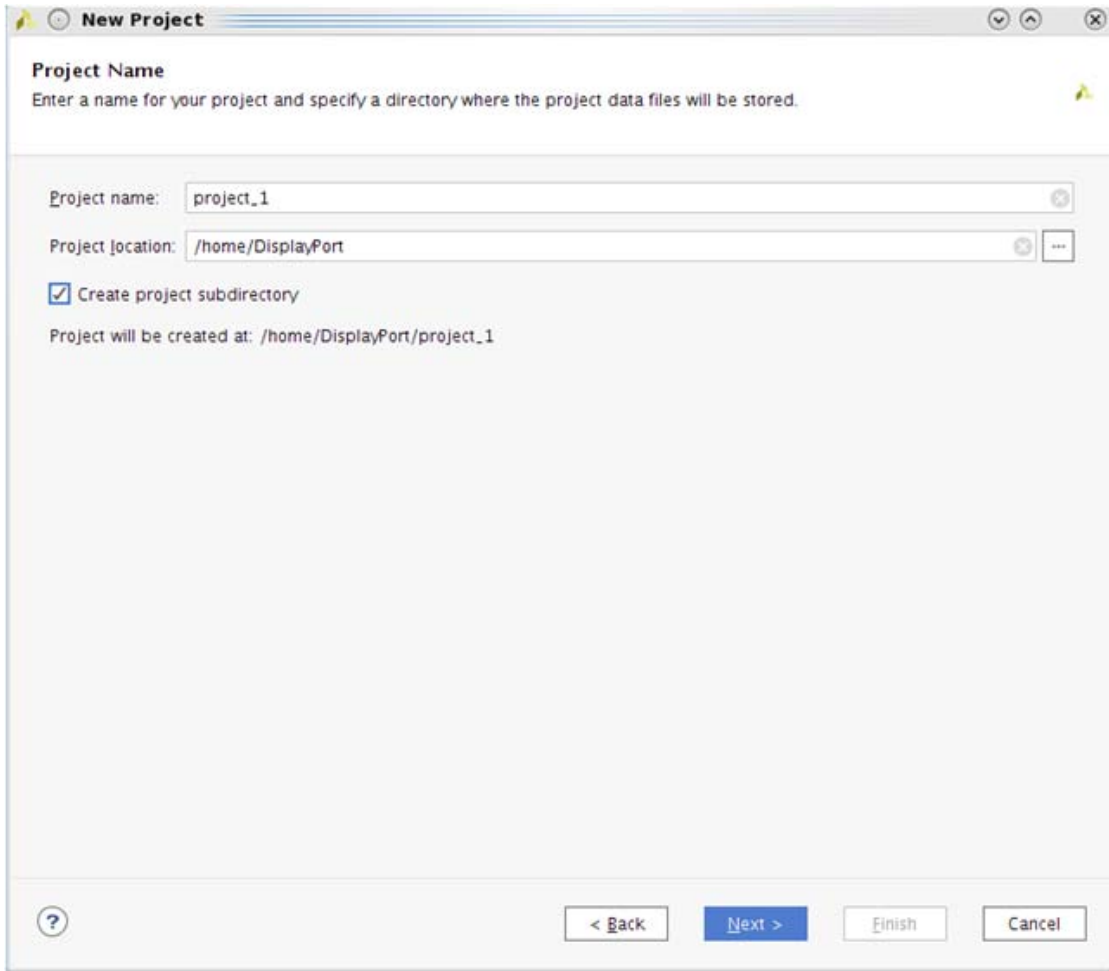

Figure 5-2: **New Project**
2. In the **New Project** window (Figure 5-2), enter a **Project name**, **Project location**, and click **Next** up to the Board/Part selection window.